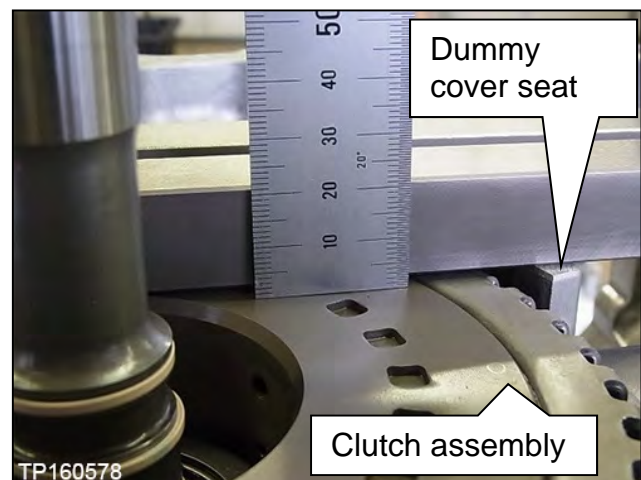

Figure 134
- The clutch assembly should sit 1-3 mm lower than the dummy cover seat (Figure 134).